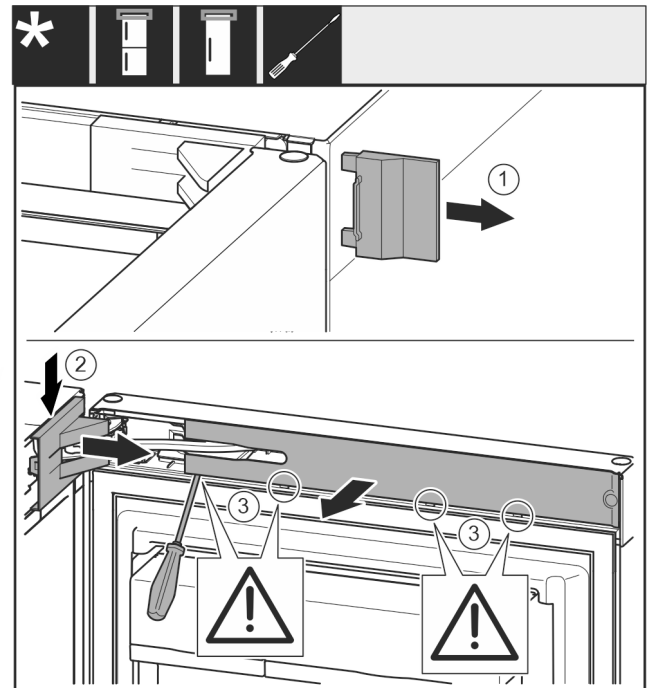

Fig. 7
- Remove the outer cover. Fig. 7 (1)
- Disengage and release the bearing bracket cover. Remove the bearing bracket cover. Fig. 7 (2)
- Unlatch the panel with a slotted screwdriver and swivel it to one side. *Fig. 7 (3)*